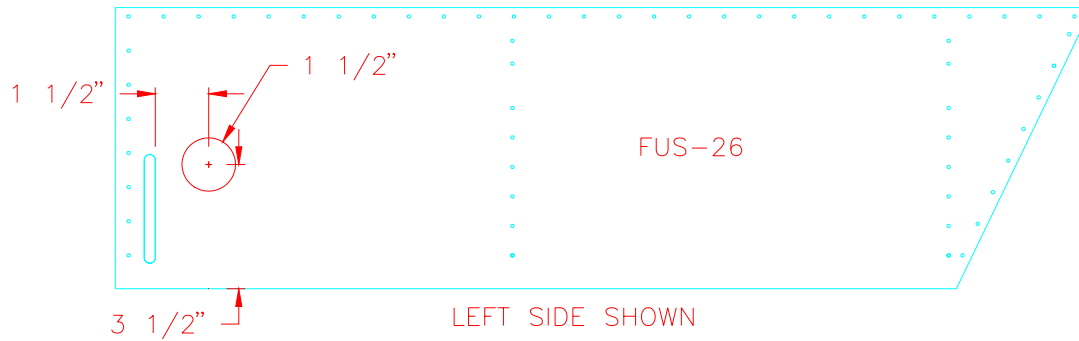

Figure 14.2.1
1) Next, on the left side of the aircraft cut a 1 1/2" inspection hole in the lower side panel (FUS-26). Figure 14.2.1. It gives access to the bolt for attaching the nut to hold the Spring Gear in place.